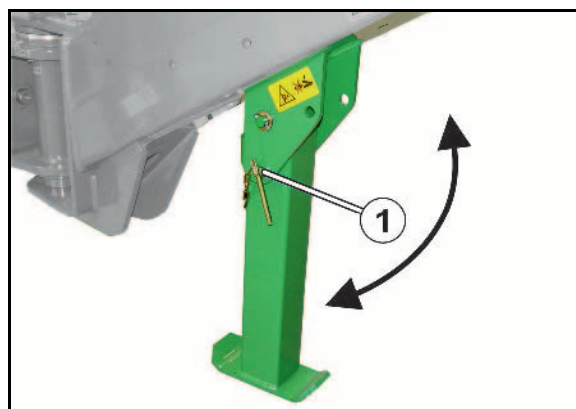

Fig. 56
- the tramline control system on the distributor head uses sliders (Fig. 56/1) to block the seed feeding lines to the seed lines (Fig. 56/2) of the tramline coulters
The seed supply to the tramline coulters is interrupted as soon as the electric motor (Fig. 56/3) closes the appropriate seed tubes (Fig. 56/2) in the distributor head.
A sensor (Fig. 56/4) checks whether the sliders (Fig. 56/1), which open and close the seed line tubes (Fig. 56/2), are working properly.